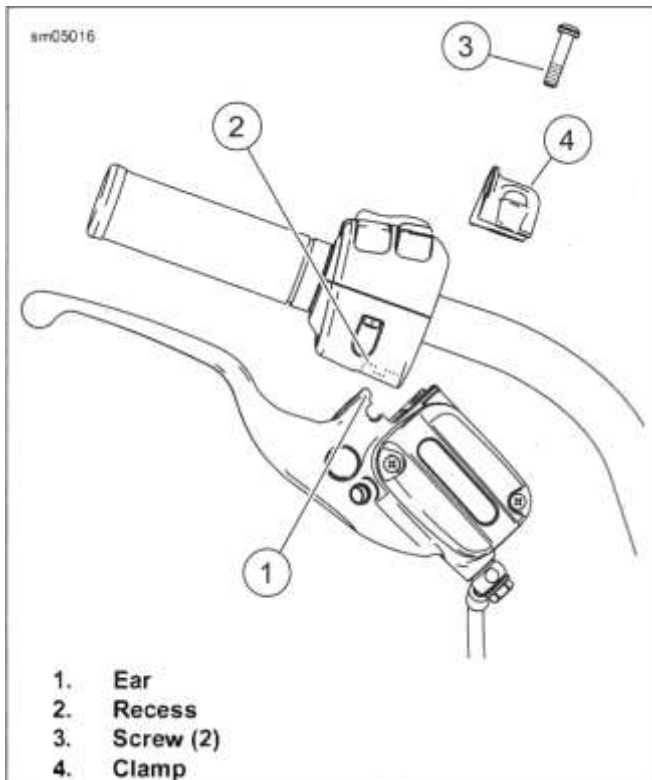

Figure 3-42. Hand Control Assembly (typical)
1. See Figure 3-42. Remove screws (3).
2. Remove clamp (4). Remove hand control assembly.
1. See Figure 3-42. Engage ear (1) in recess (2).
2. Install clamp (4).
- a. Install screws (3).